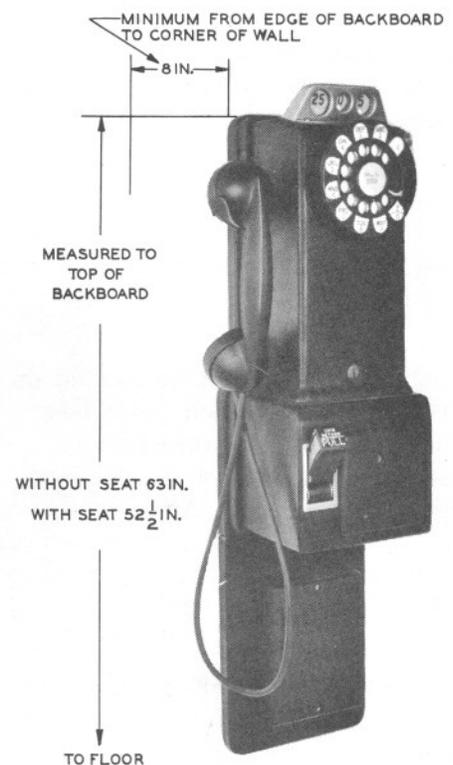

Fig. 1 — Required Mounting Height and Clearance
2.04 Height and clearance for open-type installations shall be as shown in Fig. 1.
3. Center backboard over studding or furring, obtaining height and clearance as shown in Fig. 1. Plumb backboard.